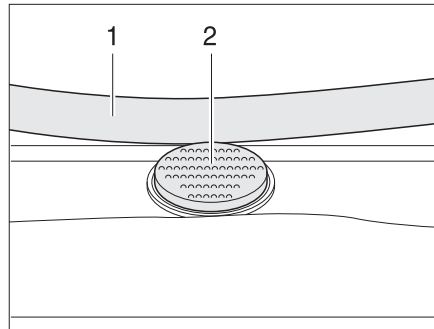

Fig. 46 Safety knob on the Heki skylight
- Press the safety knob (Fig. 46,2) and pull the bar (Fig. 46,1) down with both hands.
- Push the bar upwards with both hands until it is above the safety knob (Fig. 46,2).